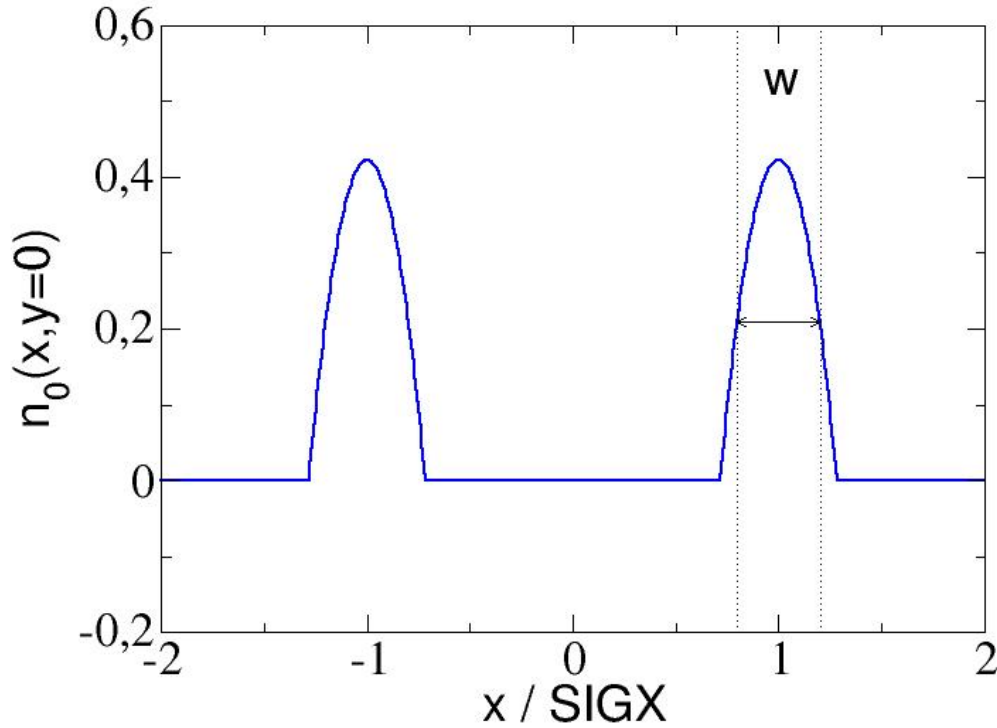

Figure 10.3: Hollow parabolic shape of radial density for beam-beam lens.
- **BBSHAPE=3**: hollow-parabolic shape (see fig.10.3). **SIGX**, **SIGY** are the distances from the centre to the maximum of the parabolic density profile in horizontal and vertical directions.